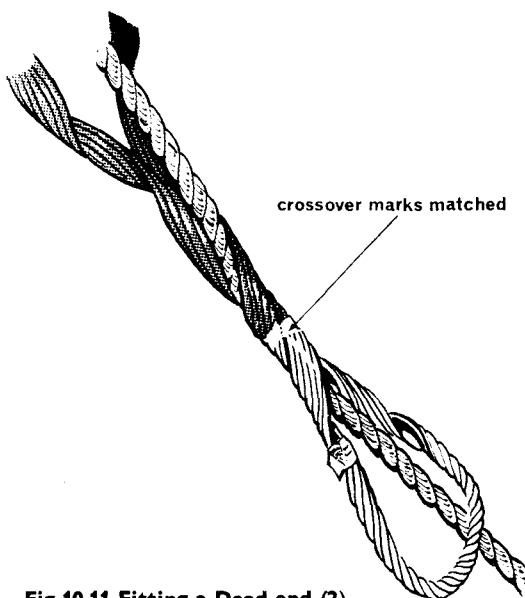

Fig 10.11 Fitting a Dead-end (2)
- Bring the other leg of the dead-end up to the rope, ensuring that the crossover marks match, and wrap two or three pitches of the second leg around the rope (Fig 10.11).